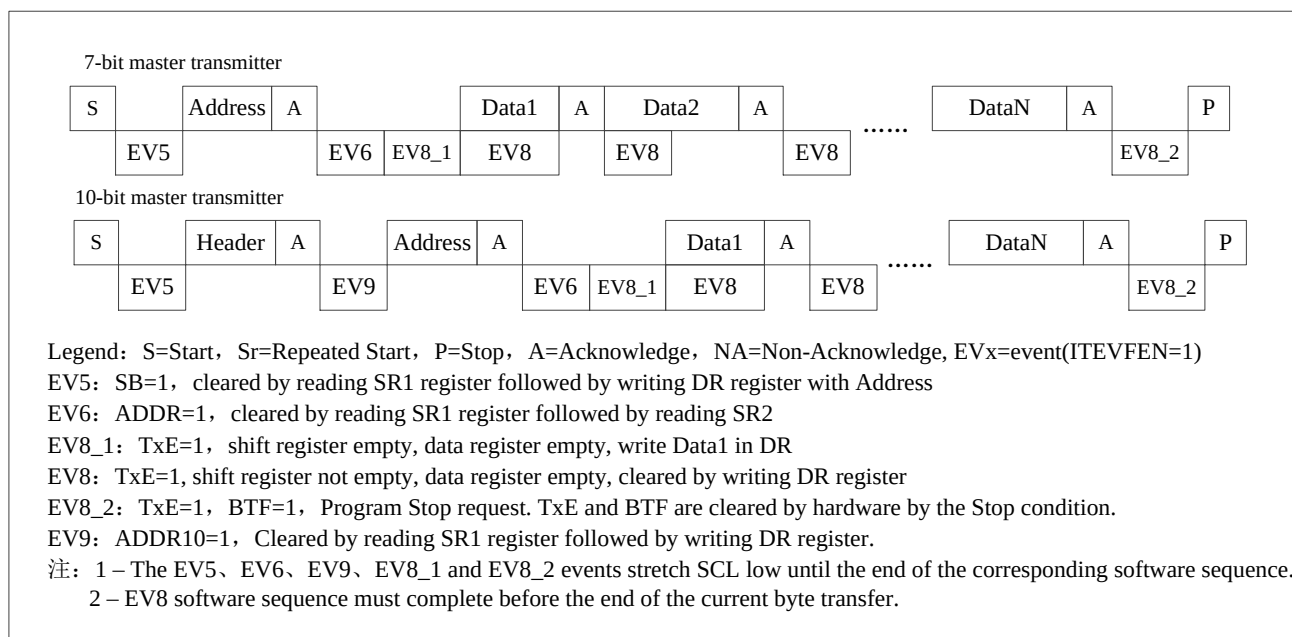

Figure 168 Transfer sequence diagram for master transmitter
Then the master waits for a read of the SR1 register followed by a write in the DR register with the Slave address (see Figure 168 and Figure 169 Transfer sequencing EV5).
Then the master waits for a read of the SR1 register followed by a write in the DR register with the second address byte (see Figure 168 and Figure 169 Transfer sequencing).
- Then the master waits for a read of the SR1 register followed by a read of the SR2 register (see Figure 168 and Figure 169 Transfer sequencing).
The master waits until the first data byte is written into I2C_DR (see Figure 168 Transfer sequencing EV8).
After the last byte is written to the DR register, the STOP bit is set by software to generate a Stop condition (see Figure 168 Transfer sequencing EV8_2). The interface automatically goes back to slave mode (MSL bit cleared).